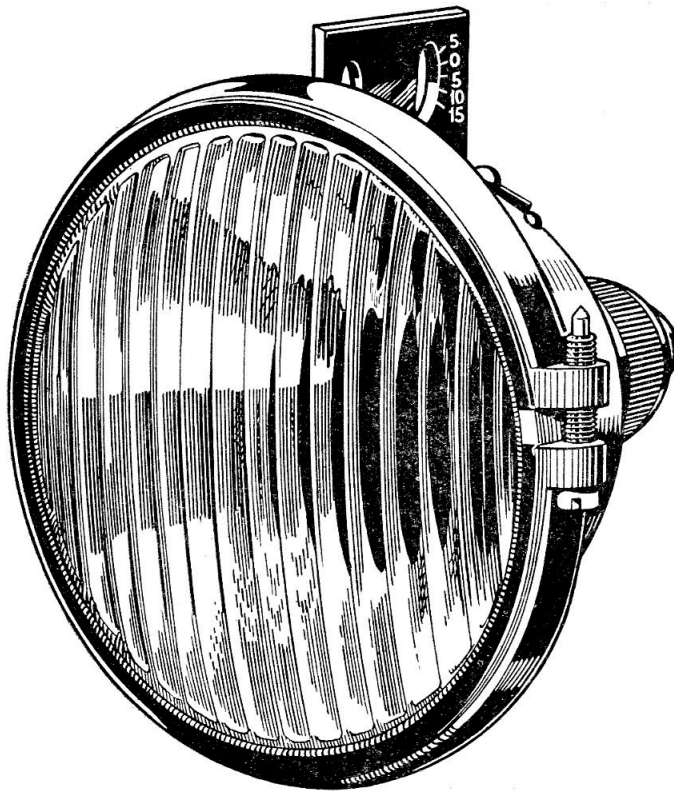

Fig. 1. Taxiing lamp, Type A
2. The lamp, shown in fig. 1, consists essentially of a lampholder, body, reflector, and bezel ring and glass. The type of filament lamp used depends upon the voltage of the aircraft electrical system and upon whether the aircraft is single or multi-engined (see Leading Particulars).
is convex, is fluted and it is important that the flutes be maintained in a vertical position, as shown in fig. 1.